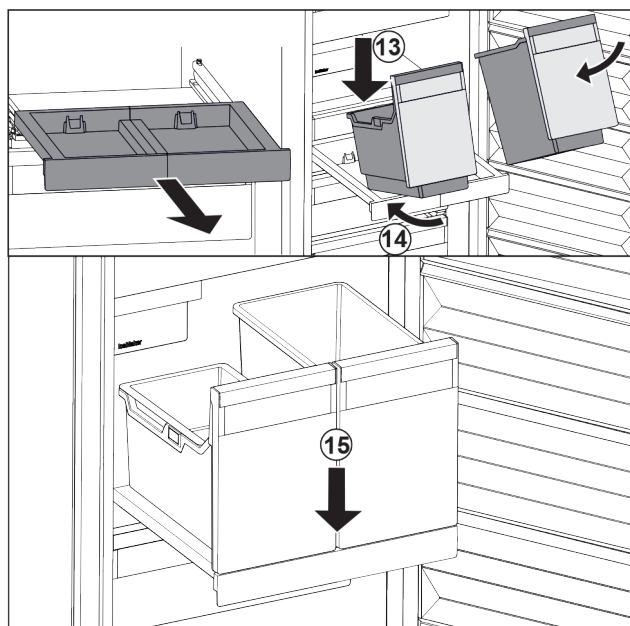

Fig. 106
- Place the container at an angle on the pull-out board. Fig. 106 (13)
- Slide the container to the back at an angle. Fig. 106 (14)
- Place container in the front. Fig. 106 (15)